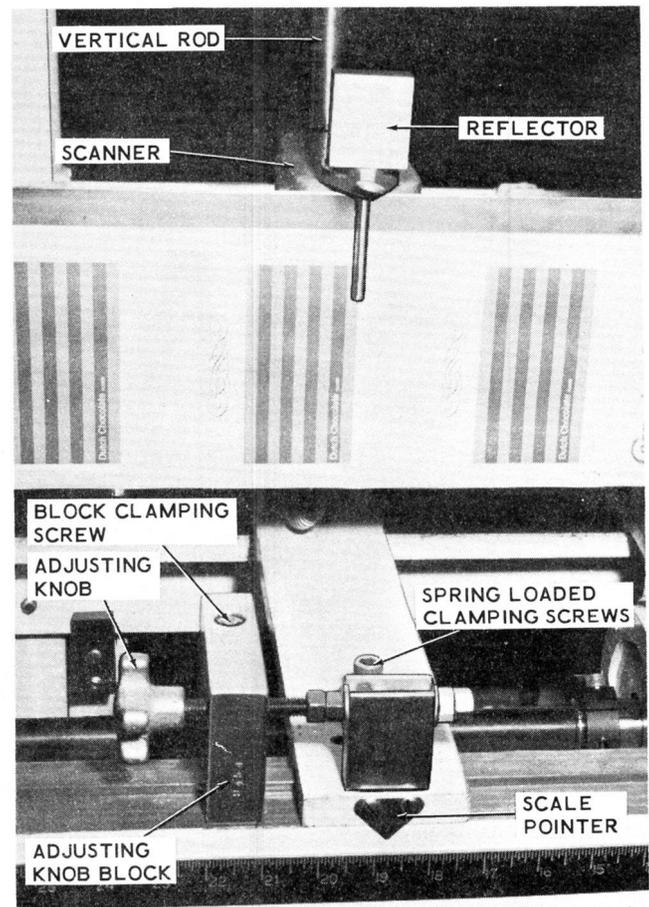

Figure 3-23. Scanner Head Mounting
The photo registration unit consists of two major components; a phototube scanner and an amplifier unit. The photo registration scanner head is located on the rear base and is mounted on an adjustable bracket with the scanning head facing the web. A back-up plate is placed on the opposite side of the web relative to the scanning head. The amplifier is located in the main control box. The photo registration unit is used with printed web to control the amount of web fed through the feed rollers. The mounting of the photo registration scanner head is adjustable in all directions. The scanning head (Figure 3-23) may be raised and lowered on its mounting post to provide vertical adjustment. The base mount permits screw adjustment for finer linear adjustment (parallel to web) of the eye to the cutoff point.
- Loosen the screw in the adjusting knob block (Figure 3-23). Move the mechanism assembly along the bed of the Packager until the desired position is
- A reflector (Figure 3-23) is provided with the scanner to assist in maintaining the web a proper distance of 1/4 inch from the scanner face. The square reflective portion is used when running transparent web. With registration marks light in color (white, yellow, etc) use black side of reflector toward the light. Use white side of reflector for dark registration marks (red, black, etc). This is done to offer maximum contrast to the phototube of the scanner.
f. Rotate the feed rolls and bring web in proper position for knife cutoff. Using the adjusting knob (Figure 3-23) move the scanner head so the light is on approximate center of the register spot. Adjust "S" switch to 5.